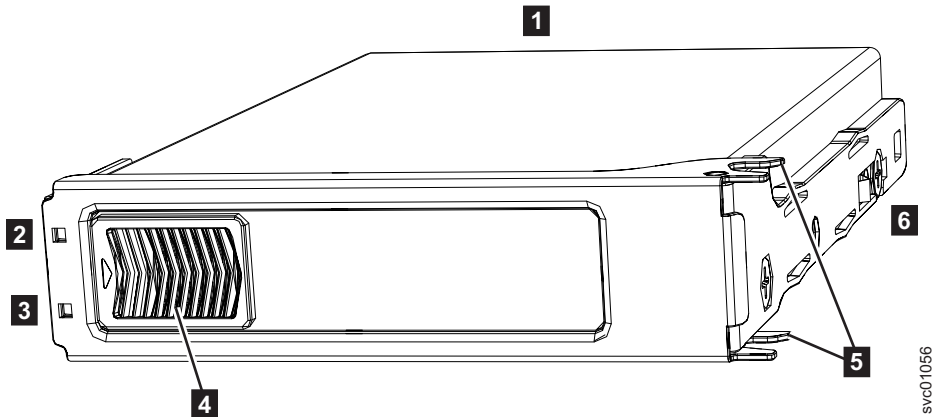

Figure 107. Drive assembly
The 2076-92F expansion enclosure supports 92 drives. Figure 107 shows an example of a drive assembly.
**Note:** When a drive is faulty, the amber fault indicator is lit (**3** in Figure 107). Do not replace a drive unless the drive fault indicator is on or you are instructed to do so by a fix procedure.